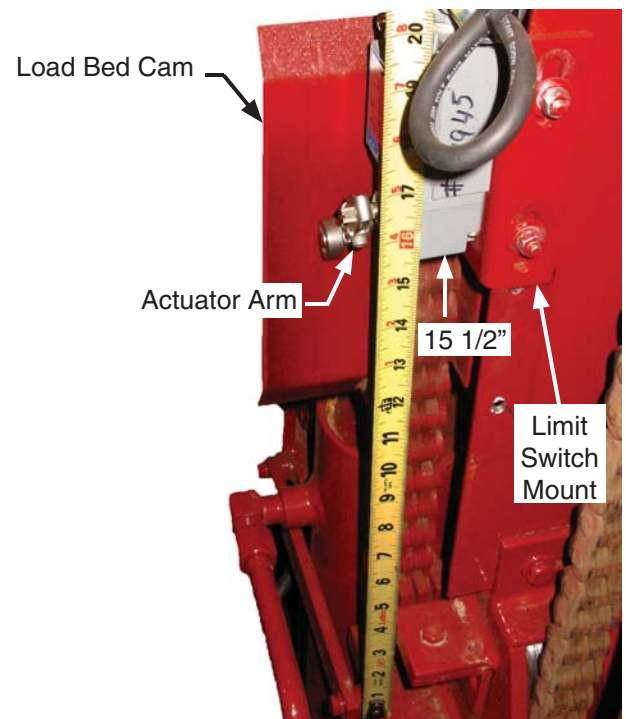

Figure 31 - Limit Switch - 12 Adjustment
1. Adjust the arm so that it properly contacts the cam surface on the head of the Load Bed Cylinder. The arm should be positioned such that it will not bind or bend when contacting the cam surface. This will happen if the roller is adjusted to contact the surface at a perpendicular angle (see Figure 31).